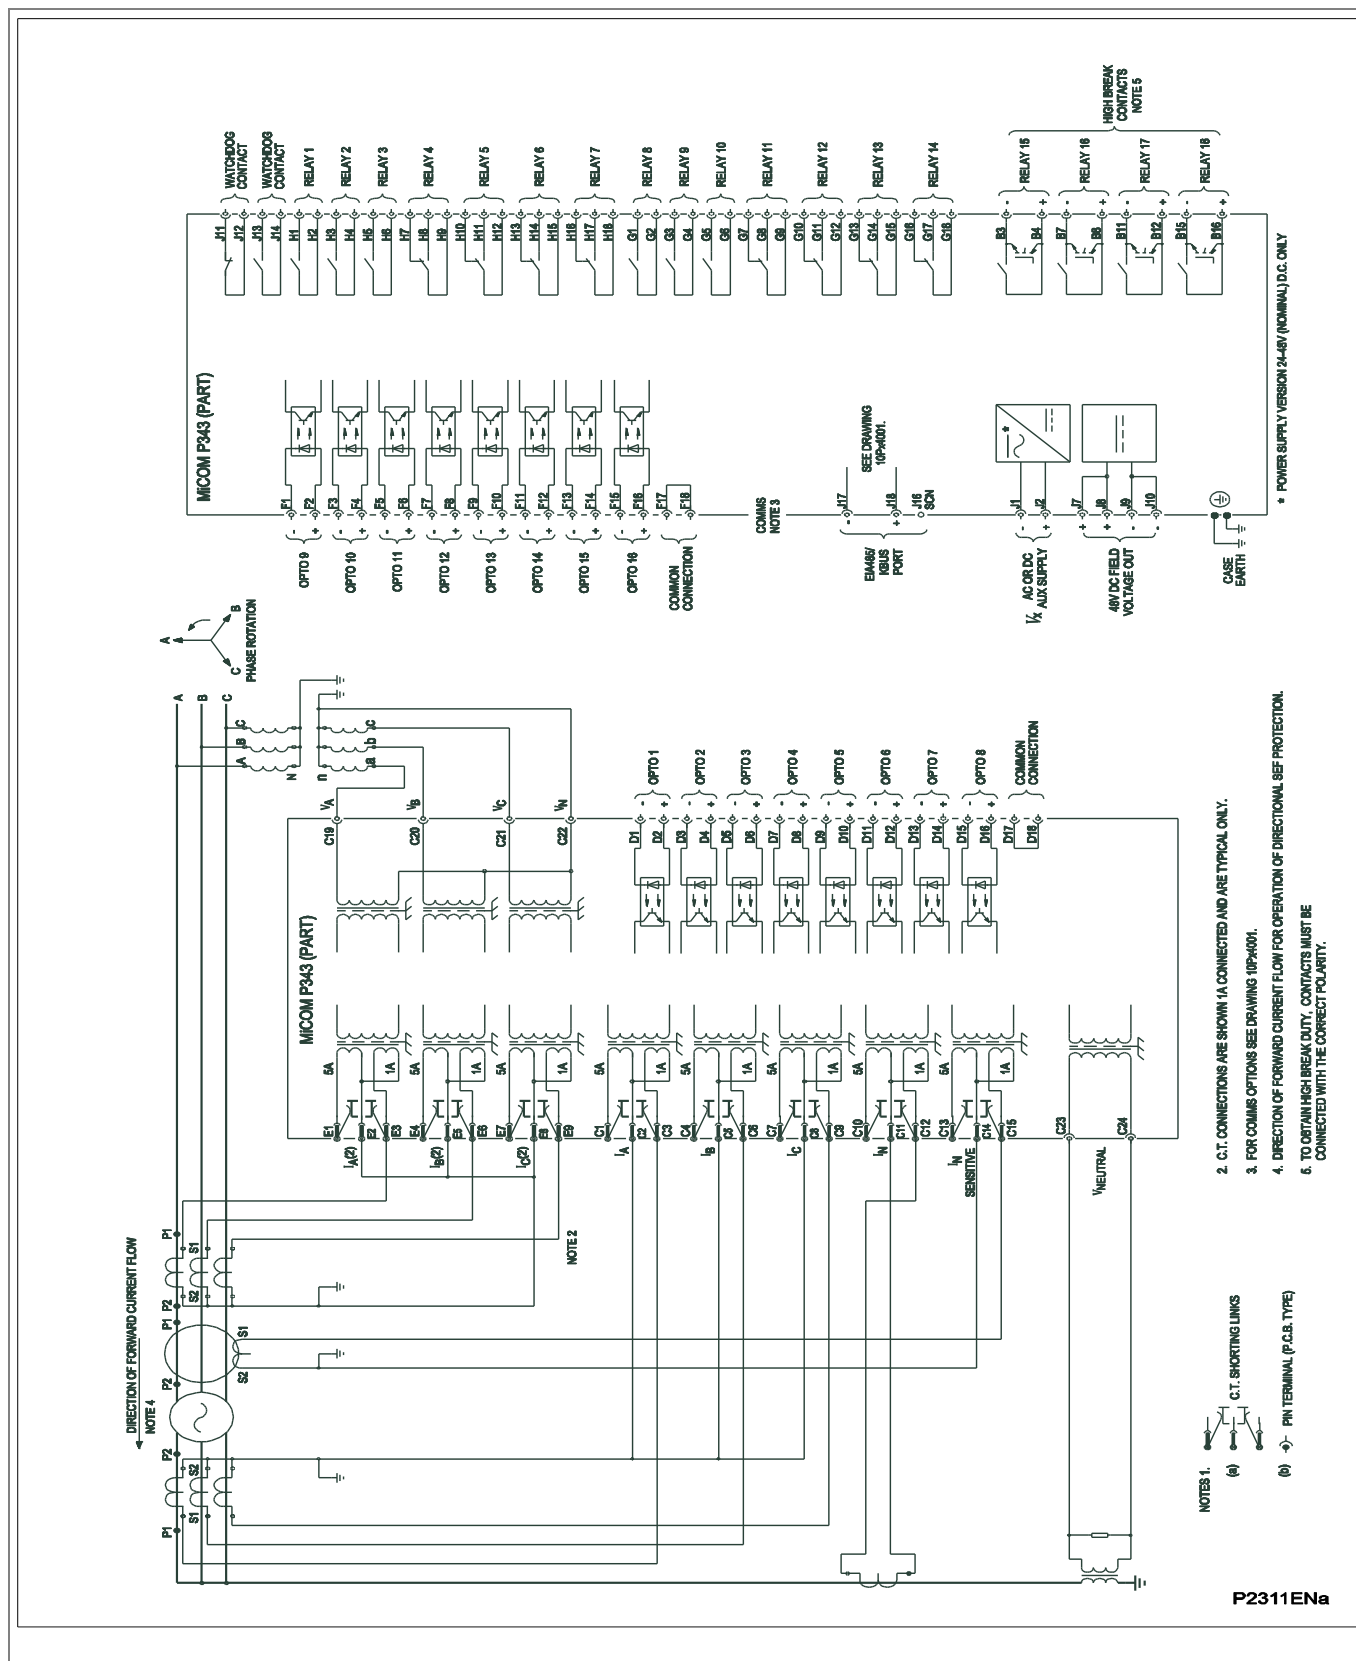

Figure 31 - P343 (60TE) with biased differential (16 I/P & 18 O/P (4HB))
- Figure 31 - P343 (60TE) with biased differential (16 I/P & 18 O/P (4HB))